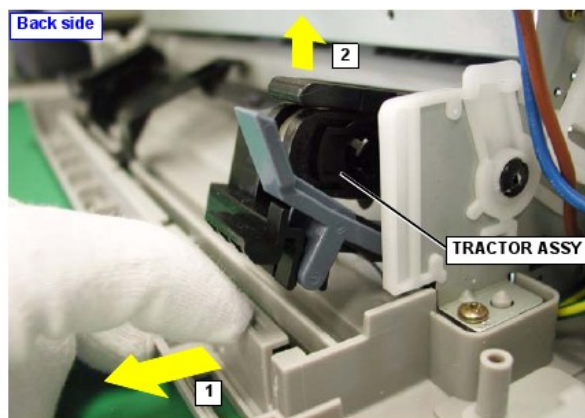

Figure 4-30. TRACTOR ASSY Release 1
4. While pulling the HOUSING ASSY, LOWER location shown below in the direction of the arrow (Refer to Figure 4-30), lift the back part of the TRACTOR ASSY and then release it from the HOUSING ASSY, LOWER connector.